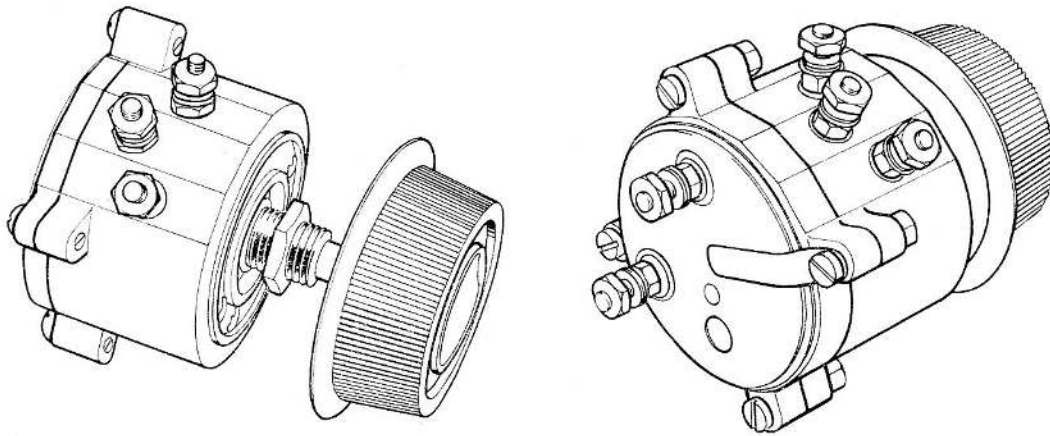

Fig. 1. View of V4 potentiometer
1. The Berco Type V4 Rheostat is used as a low power, wire-wound potentiometer, fig. 1.